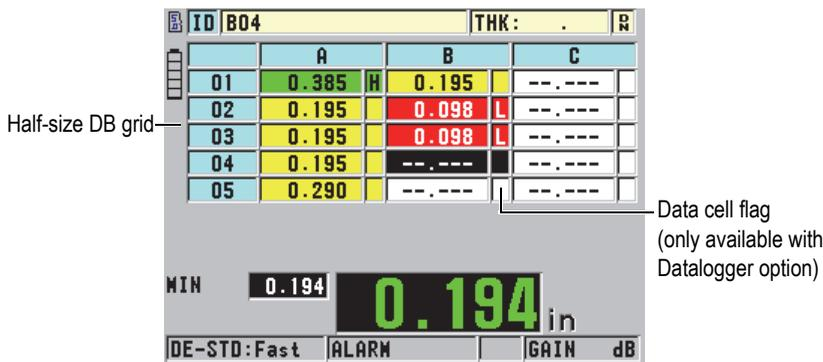

Figure 9-7 Example of the half-size DB grid
The database grid (DB grid) is a table representation of 2-D data. This representation enables you to move freely in any direction on a grid, rather than follow a preset list of IDs. Instead of automatically incrementing to the next ID location, you can use the arrow keys to move to a location that is more convenient. You can simultaneously display the A-scan, the DB grid, and the thickness reading (see Figure 9-7 on page 154). You can configure the grid cells to show a data cell flag and a background color corresponding to the range in which their thickness reading falls.
6. Set **DATA CELL FLAG** to one of the available options in order to display a single data flag with each data cell in the DB grid. The data cell flag is a letter that appears in a small box to the right of the thickness value in the data cell (see Figure 9-7 on page 154). The available options are: